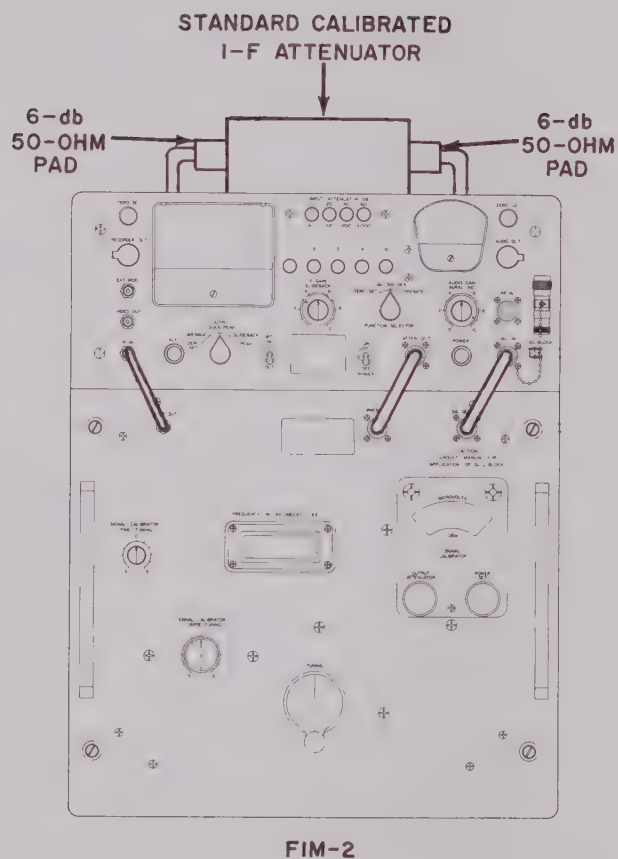

Figure 4-38. Calibrating Input Attenuator
j. Connect a microwave power meter, such as the Polarad Model P-3 Microwave Power Meter, to the SIG GEN OUT jack through a thermistor mount, such as the Polarad Model TM-1 Thermistor Mount, as shown in figure 4-38.
c. Connect a standard calibrated i-f attenuator, using a 6-db 50-ohm pad at each end, between P326 and P325, as shown in figure 4-38.